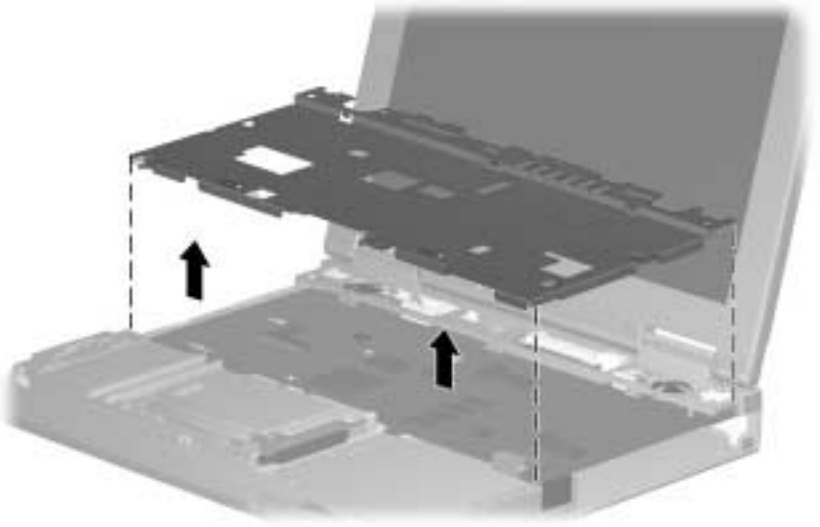

Figure 5-21. Removing the EMI shield
5. Lift up the front edge of the shield and swing it toward the back of computer (Figure 5-21).